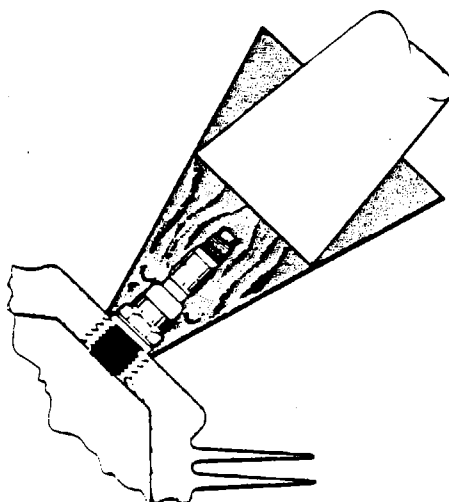

FIGURE 7-17. REMOVING SEIZED SPARK PLUG
d. Removal of seized spark plugs in the cylinder may be accomplished by application of liquid carbon dioxide by a conical metal funnel adapter with a hole at the apex just large enough to accommodate the funnel of a CO2 bottle. (Refer to Figure 7-17.) When a seized spark plug cannot be removed by normal means, the funnel adapter is placed over and around the spark plug. Place the funnel of the CO2 bottle inside the funnel adapter and release the carbon dioxide to chill and contract the spark plug. Break the spark plug loose with a wrench. A warm cylinder head at the time the carbon dioxide is applied will aid in the removal of an excessively seized plug.